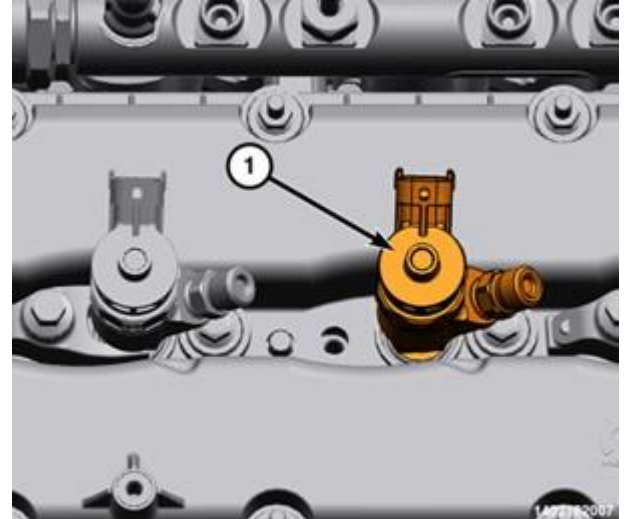

Figure 47 – Fuel Injector Bolt
- 88. Using your hand, pull the fuel injector (1) straight up from the cylinder head for removal. Discard the lower sealing washer and place a protective cap over the nozzle and injector bore (Figure 47).